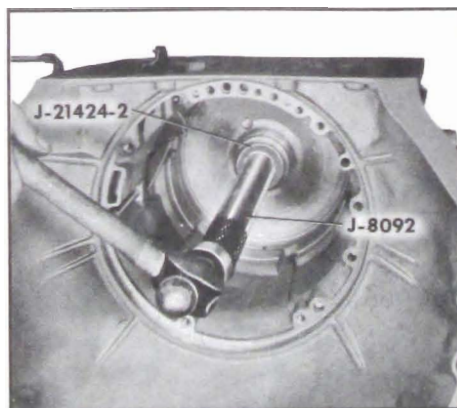

Figure 5-275
1. Install case bushing, make certain split on bushing is opposite notch in case. See Figure 5-275.